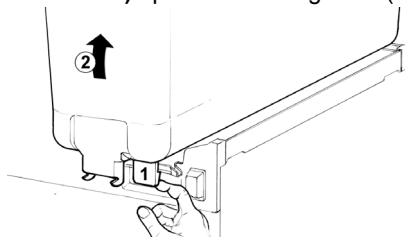

figure 3
- 2 Remove the empty bowl by lifting pulling lever (1) and its front side (faucet side) up and off bowl gasket (see figure 3).